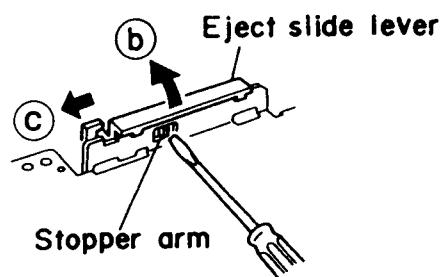

Fig. 2-23
■ Eject slide lever (Fig. 2-23)
1. Place the cassette mechanism back side frontward and disengage the stopper arm ⑤ of the Eject slide lever by pressing it inwards through the opening of the chassis with a small screwdriver as shown in Fig. 2-23.
2. Disengage the Eject slide lever in the direction of arrow ⑥.